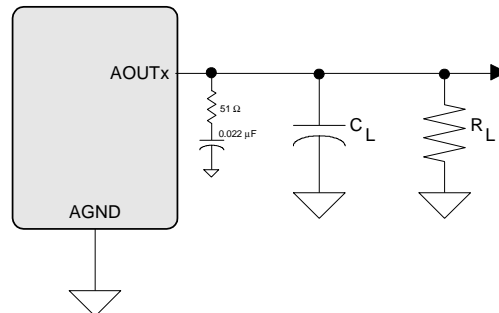

Figure 3. Headphone Output Test Load
(Test conditions (unless otherwise specified): Input test signal is a full-scale 997 Hz sine wave; measurement bandwidth is 10 Hz to 20 kHz; Sample Frequency = 48 kHz and 96 kHz; test load $R_L = 10\text{ k}\Omega$, $C_L = 10\text{ pF}$ for the line output (see Figure 3), and test load $R_L = 16\ \Omega$, $C_L = 10\text{ pF}$ (see Figure 3) for the headphone output.
Test conditions (unless otherwise specified): Input test signal is a full-scale 997 Hz sine wave; measurement bandwidth is 10 Hz to 20 kHz; Sample Frequency = 48 kHz; test load $R_L = 10\text{ k}\Omega$, $C_L = 10\text{ pF}$ (see Figure 3).
Test conditions (unless otherwise specified): Input test signal is a full-scale 997 Hz sine wave; measurement bandwidth is 10 Hz to 20 kHz; Sample Frequency = 48 kHz; test load $R_L = 16 \Omega$, $C_L = 10 \text{ pF}$ (see Figure 3).
10. See Figure 3. R_L and C_L reflect the recommended minimum resistance and maximum capacitance required for the internal op-amp's stability and signal integrity. In this circuit topology, C_L will effectively move the band-limiting pole of the amp in the output stage. Increasing this value beyond the recommended 150 pF can cause the internal op-amp to become unstable.